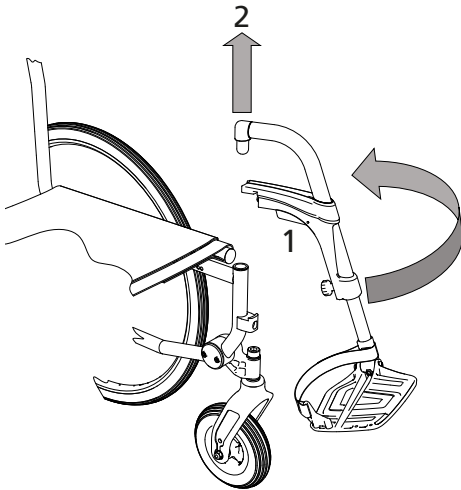

fig.20
1. Actuate the locking mechanism in red/orange (1, Fig.20) and swing the leg rest outwards.
2. Now you can pull upwards on the leg rests. (2, Fig. 20).